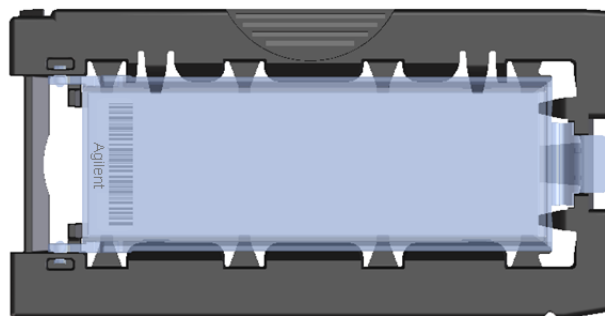

Figure 20. Slide inserted in slide holder – cover closed
- f Close the plastic slide cover, gently pushing on the tab end until you hear it “click”. See **Figure 20**. Make sure that the slide holder is completely closed.